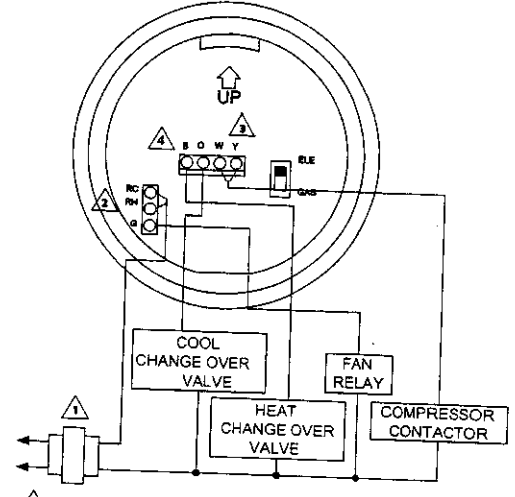

Fig 13. Typical hookup of ES100 in single-stage heat pump system.
- Fig. 13 - Single-stage heat pump